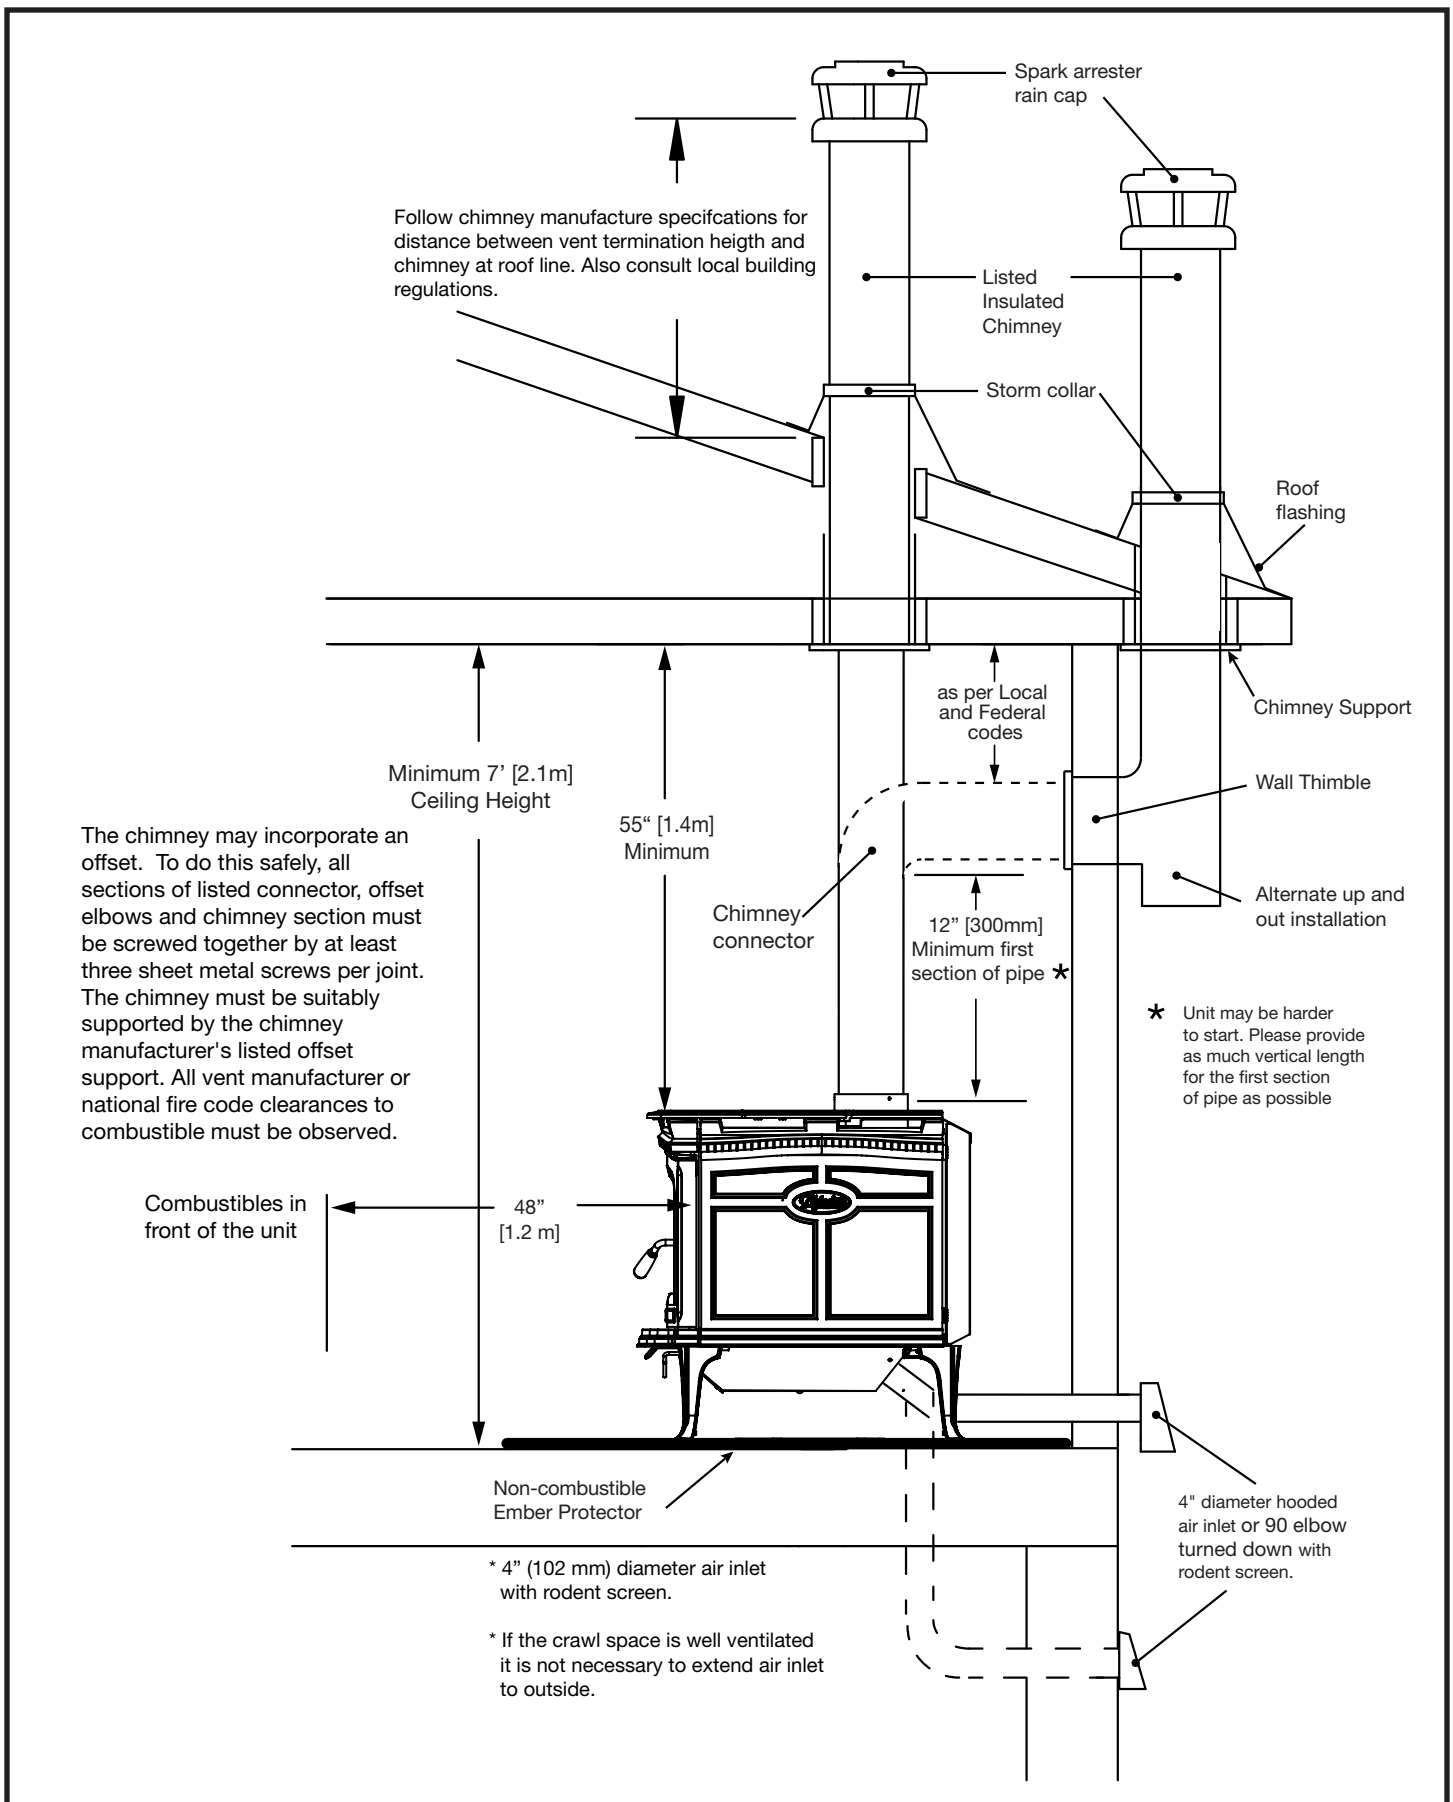

Figure 6: T6 residential venting.
- Outside air supply must be used for Mobile Home installations - see Figure 6 on page 16.